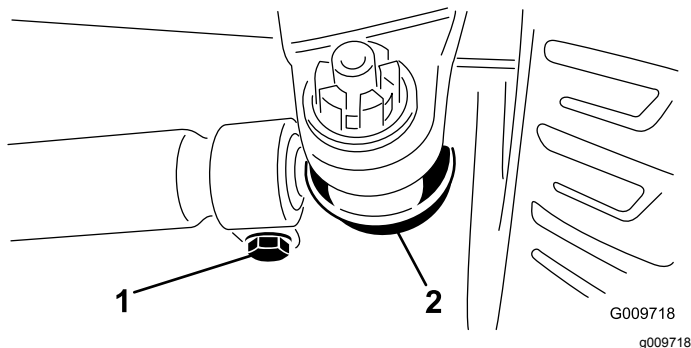

Figure 48
- To adjust, remove the cotter pin and nut from either tie rod ball joint (Figure 48). Remove tie rod ball joint from axle case support.
- Loosen the clamps at both ends of the tie rods (Figure 48).
- Rotate the detached ball joint inward or outward one (1) complete revolution. Tighten clamp at loose end of tie rod.
- Rotate the entire tie rod assembly the same direction (inward or outward) one (1) complete revolution. Tighten clamp at connected end of tie rod.